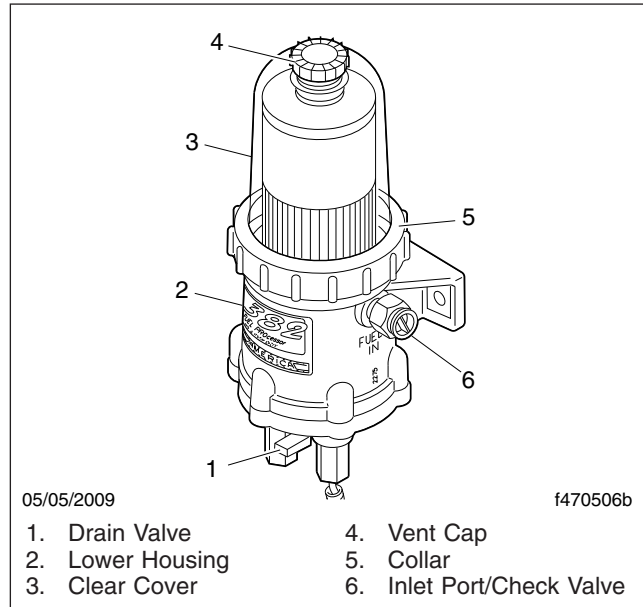

Fig. 2, DAVCO Fuel/Water Separator (Fuel Pro 382 Shown)
4. Remove the vent cap (**Fig. 2**, Item 4) and open the drain valve (**Fig. 2**, Item 1) to drain the fuel completely, then close the drain valve.
3. Remove the vent cap (Fig. 2, Item 4) and open the drain valve (Fig. 2, Item 1) to drain the fuel completely, then close the drain valve.